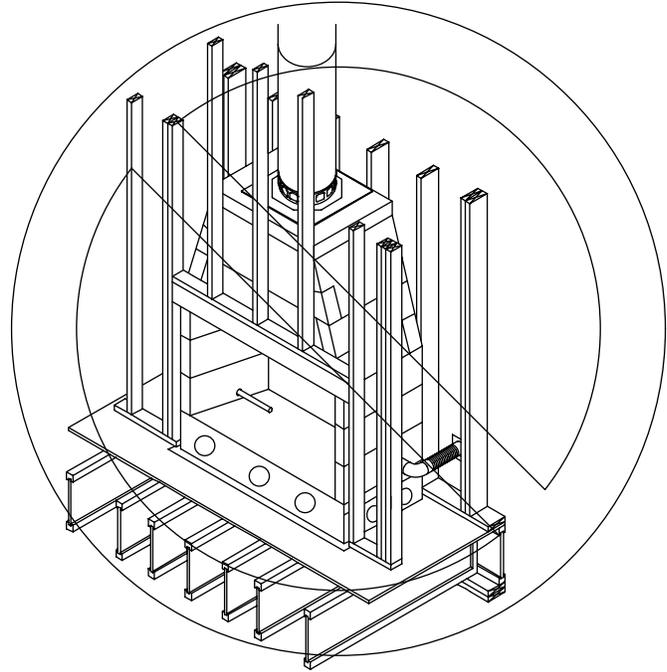

FIGURE 95
**CAUTION:** Do not frame a wall in front of the Standard Fire-Lite Series fire box/smoke dome assembly, as shown in figure 95.